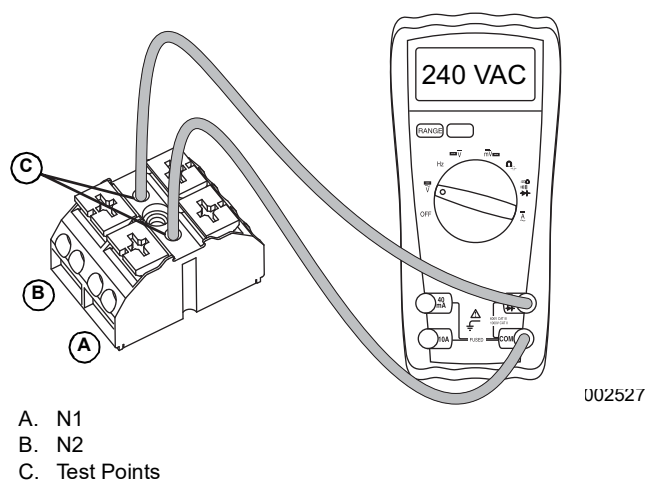

Figure 2-7. Terminal Block Test Points
3. See Figure 2-7. Connect one test lead to Wire N1 at the terminal block in the generator control panel. Connect the other test lead to Wire N2. Utility line-to-line voltage should be measured.